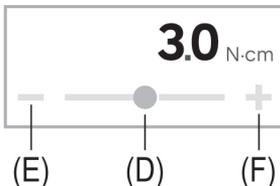

Figure 12.
Slide the slider (D), or touch [-] (E) or [+] (F) (Figure 12).